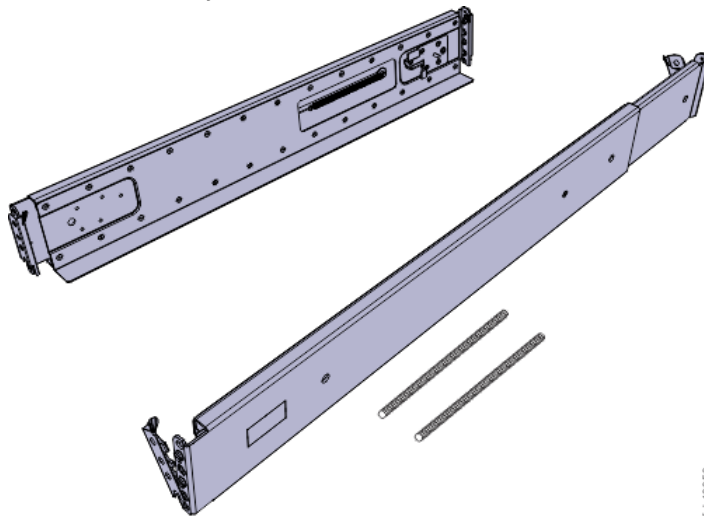

Figure 28. Expansion enclosure support rails
1. Locate the expansion enclosure rails (Figure 28 on page 69).